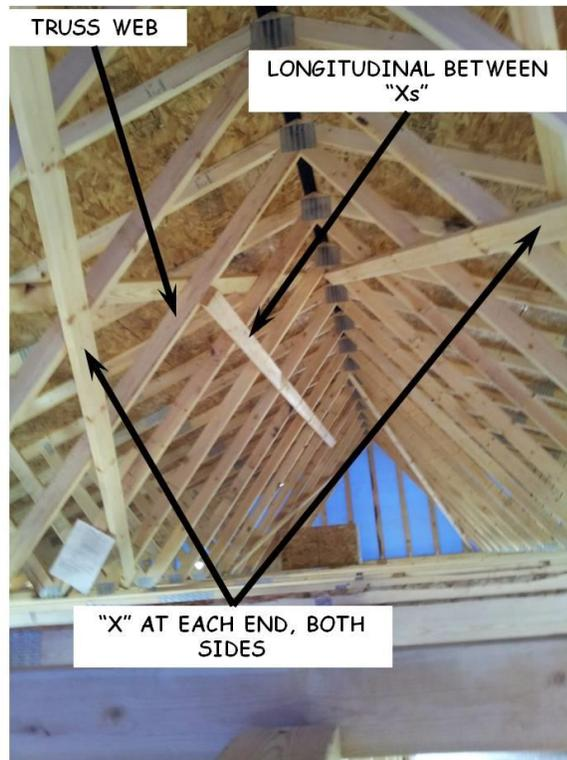

Figure 7-7. Truss Bracing.
1. After roof sheathing has been installed it is necessary to permanently install X-bracing (diagonal). This bracing prevents lateral movement of the truss system. The bracing is nailed to the truss webs as shown in Figure 7-7.
5. Connect the X-braces by nailing one long 2x4, horizontally, to the truss webs, about halfway down from the peak. Each end of the longitudinal bracing must be nailed to at least two truss webs to which an X brace is nailed (see Figure 7-7). If more than